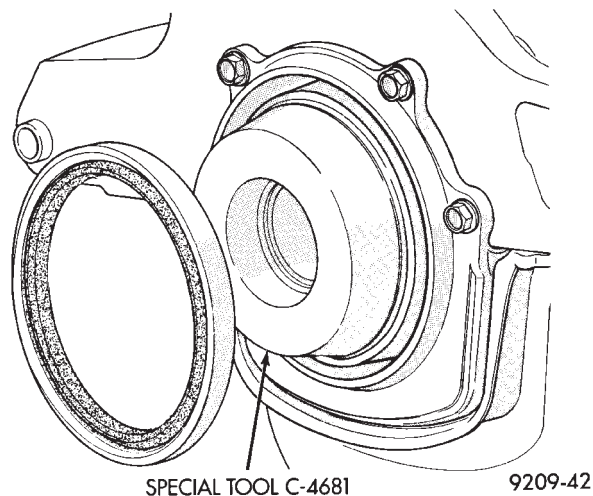

Fig. 3 Installing Rear Crankshaft Oil Seal
(2) Place Special Tool C-4681 on crankshaft (Fig. 3).
(3) Lightly coat seal O.D. with Loctite Stud N' Bearing Mount or equivalent.
(4) Place seal over Tool C-4681 and tap in place with a plastic hammer.